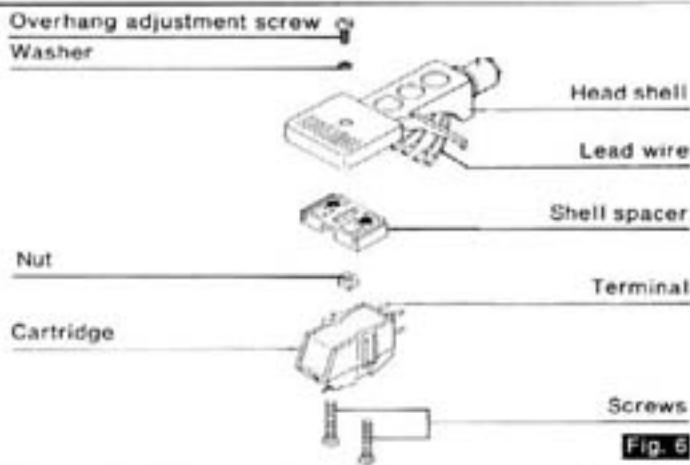

Fig. 6
2. Install the cartridge to the spacer, and tighten it with screws provided with the cartridge. (See Fig. 6).